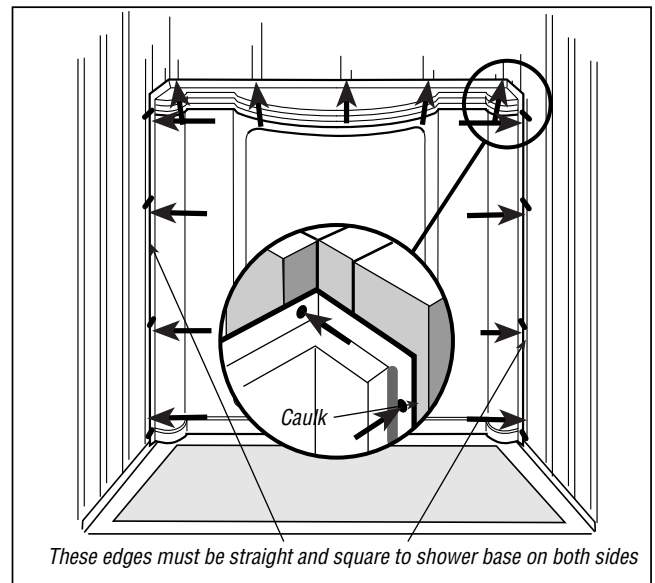

Figure 4
- 2** Position the three panels as they will go into the alcove. **Note: When in position against the back wall studs, the front nailing flanges on the back panel must be straight and square with the shower base (see figure 4).** Horizontal nailing flanges will be located at the top of all three panels. Decide which side panel will need cutouts for plumbing fixtures. Carefully locate, mark and cut holes, using the proper size hole saw.
- 5** Locate and drill a 3/16" hole in the center of the nailing flange at the top of the panel and centered on each stud (*Figure 4*). **Check that the vertical nailing flanges on both sides are straight and square with the base (you may need to manually bend the nailing flanges to straighten).** Also drill four evenly spaced 3/16" holes on the front nailing flange on each side (*Figure 4*). Hammer 3/4" galvanized roofing nails through each hole and into the studs, securing the wall panel. Add a bead of latex/acrylic caulk down the vertical corner of the back panel (*Figure 4*).